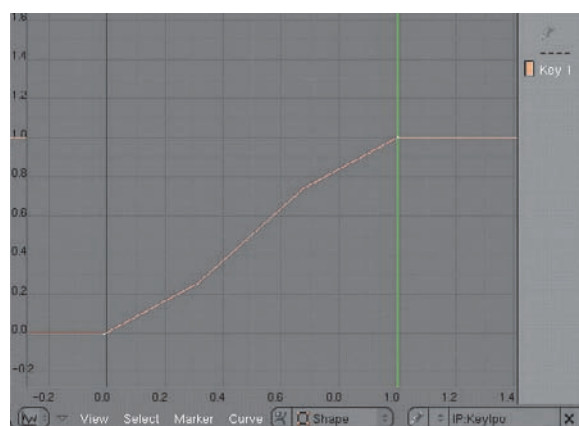

Figure 1.83 Placing vertices on the Ipo
5. The shape will be driven by the location of the empty. To set up the shape key driver, open an Ipo Editor window with the mesh selected and choose Shape from the header drop-down list. Press Ctrl+LMB to create an Ipo curve, and then again to add another vertex on the Ipo, along the lines of Figure 1.83. It doesn't really matter where the vertices are located; you'll be adjusting them manually in a moment.